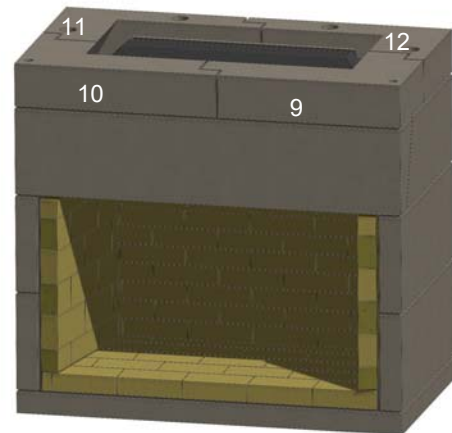

Figure 13. Lower Throat Level
G. After fire brick installation is complete, install the front lintel (8).
I. Install the first complete ring of four interlocking throat components (items 9, 10, 11 and 12). Check with a level. See Figure 13.